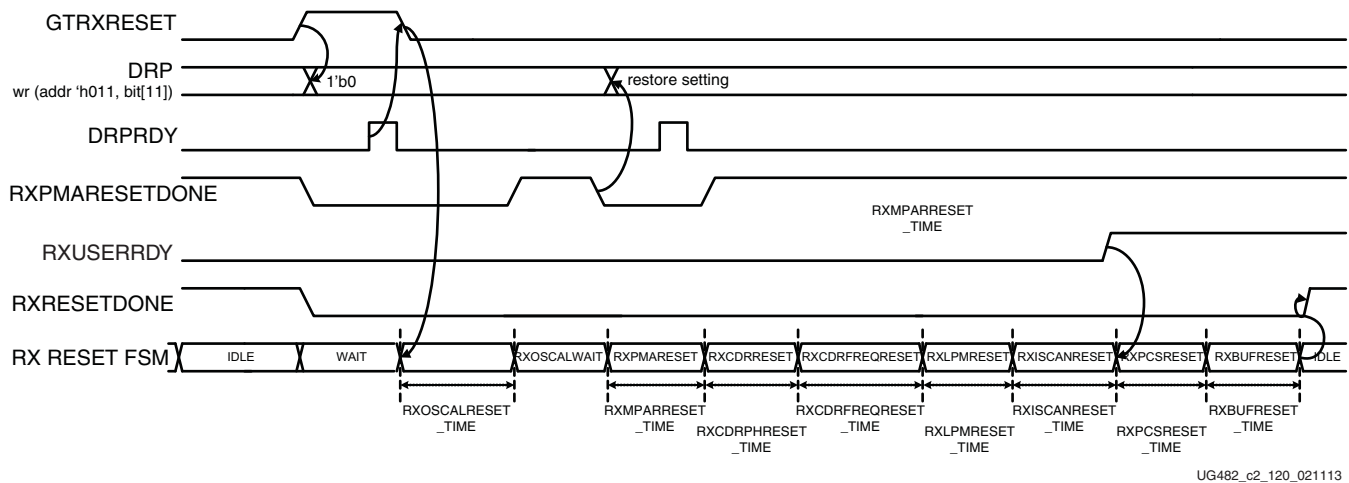

Figure 2-20: GTP Transceiver Receiver Reset after GTRXRESET Pulse
4. The steps for issuing GTRXRESET is illustrated in Figure 2-20.
Notes relevant to Figure 2-20:
2. The sequence of events in Figure 2-20 is not drawn to scale.